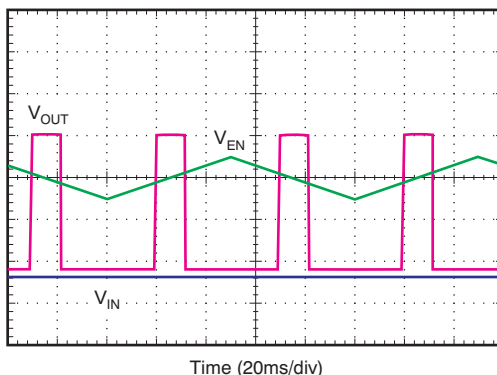

Figure 30. Enable Pin Positive and Negative Threshold
The TPS7A30 provides a dual-polarity enable pin (EN) that turns on the regulator when $|V_{EN}| > 2$ V, whether the voltage is positive or negative, as shown in Figure 30.